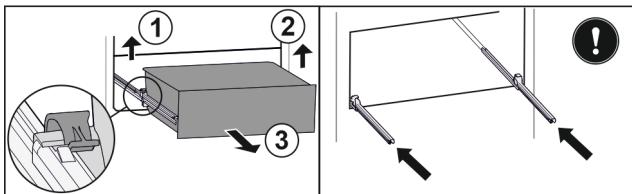

Fig. 116
- ▶ Lift left clamp and simultaneously pull drawer forwards on the left. Fig. 116 (1)
- ▶ Lift right clamp and simultaneously pull drawer forwards on the right. Fig. 116 (2)
- ▶ Remove drawer to the front. Fig. 116 (3)